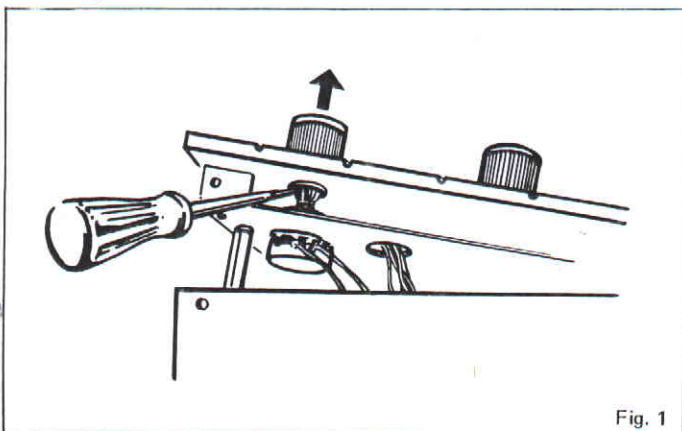

Fig. 1
1. To remove the speed adjustment knobs, which are push-on types to variable resistor knurled shafts, insert the minus screwdriver to the bottom surfaces of the knobs and push up gently. (Fig. 1)